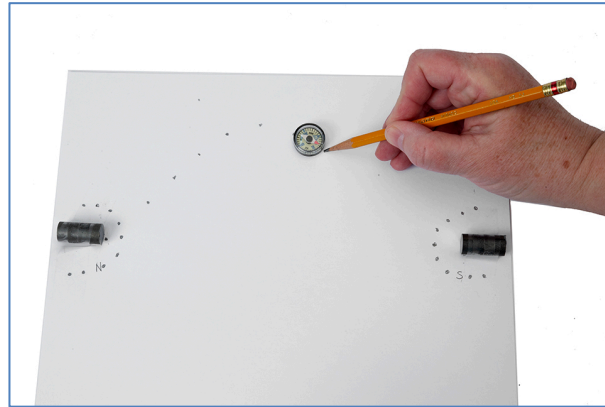

Figure 2: Attractive Dipole Setup
1. Position the two magnets so they are about halfway onto a piece of $8\frac{1}{2}$ x 11-inch paper as shown in Figure 2. The north pole of one magnet should face the south pole of the other. Draw a line around each magnet, label the poles, and tape the magnets to the paper so they will not roll. Near the north end, make a semi-circle of nine dots with one dot on the symmetry axis and four above the axis and four below as shown.
2. Position the compass so the south end of the compass points to one of the dots in the semi-circle (in Figure 2, I started at the third dot from the top). Using a wooden pencil (why?) make a dot on the paper where the north end of the compass needle points. Then move the compass so the south end points to the dot you just made and mark a new mark